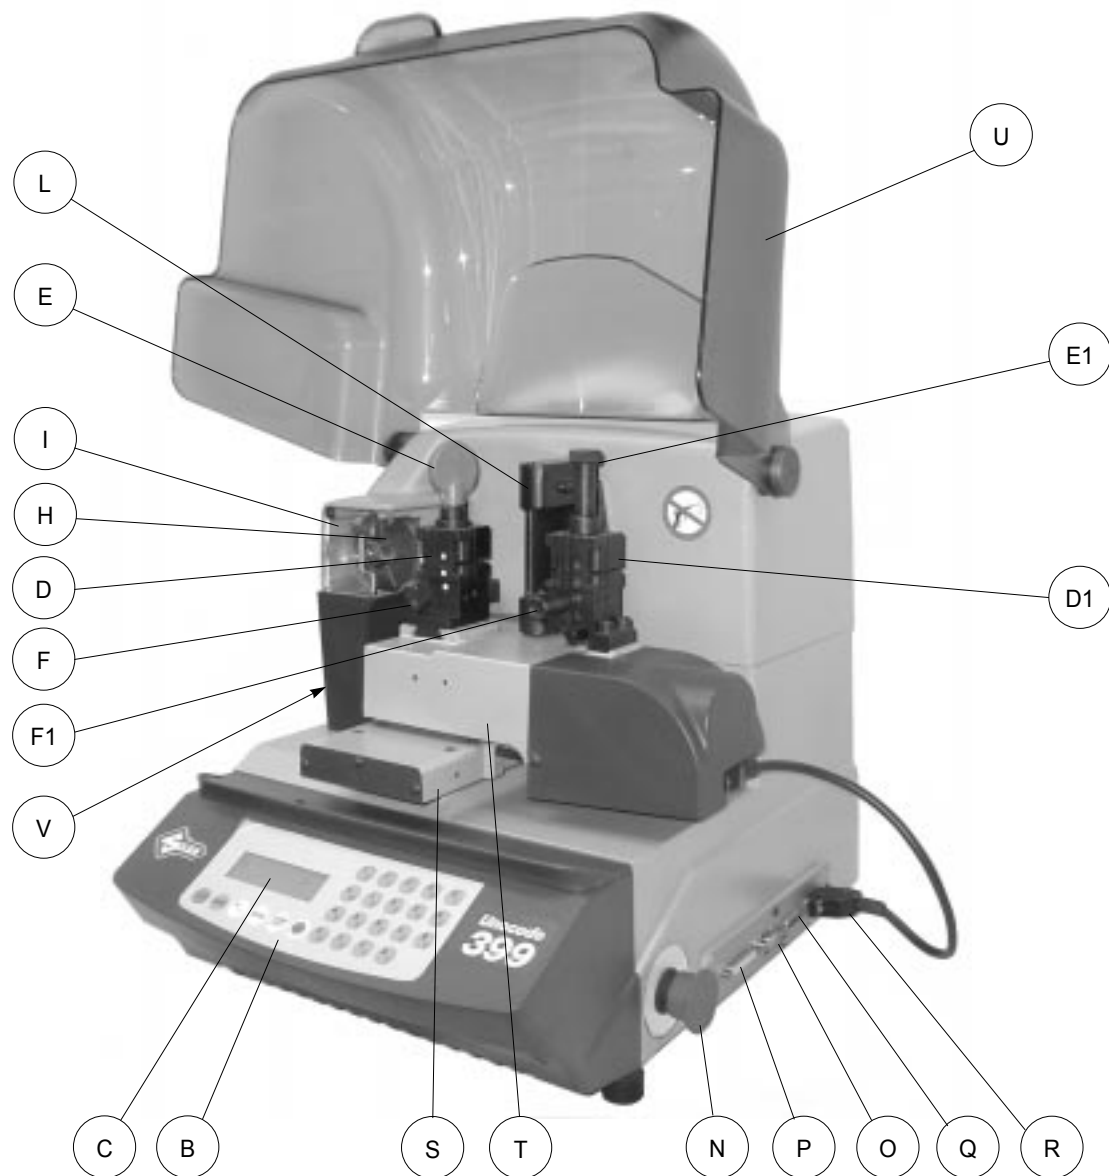

Fig. 5
The shield (U) (fig. 5, page 5) must be raised in order to fit keys for cutting or carry out other operations. Raising of the shield is controlled by a microswitch and disactivates the operating and movement functions, including the cutter. A special message appears on the display to warn that the shield is not closed.
The red emergency button (N) (fig. 5, page 5) placed on the right-hand side of the machine is used to stop it immediately in the event of faulty operation or danger for the operator.